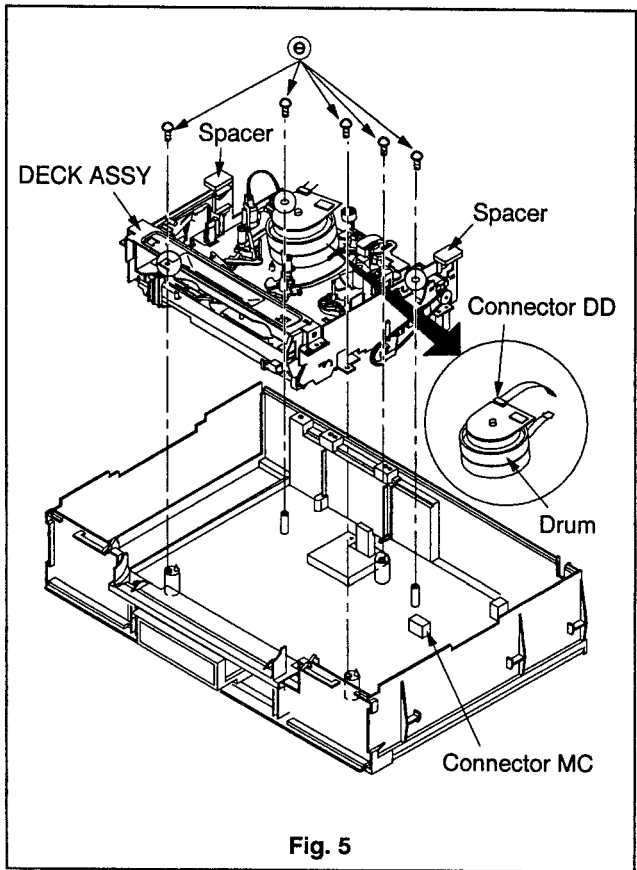

Fig. 5
6. Remove the five screws (ⓐ) shown in Fig. 5.